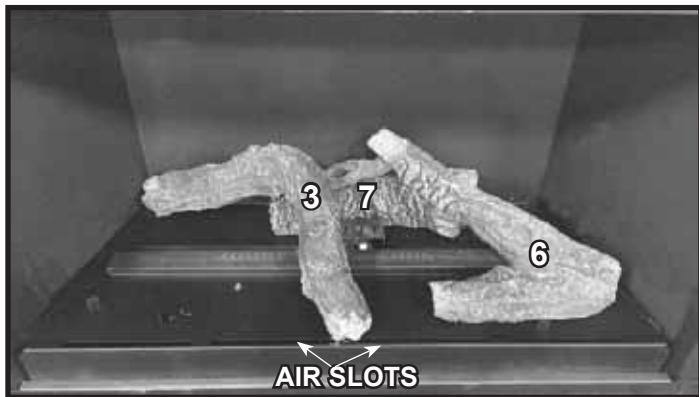

Figure 19. Place Log #3
19. Install Log #3 by placing it on the base pan as an arch where one end contacts the back left corner of the firebox and the other end rests on the sheet metal between two air slots on the front of the base pan. Log #3 should lean back and rest on Log #7. See Figure 19.